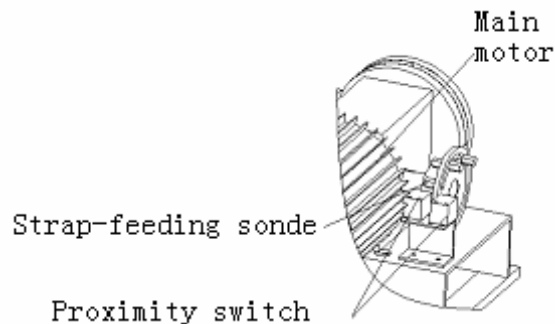

Fig 2-16
- ① When the two proximity switches induce strap-feeding sonde shown as Fig 2-16, main motor starts and the machines starts feeding strap.